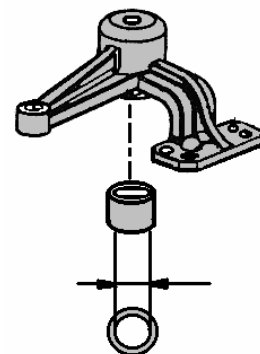

Fig.6-26
-Measure the bore diameter of the roll bush in the drag arm with a cylinder gauge or vernier calipers. If the measured value exceeds the usable limit, replace the bush (Fig. 6-26)